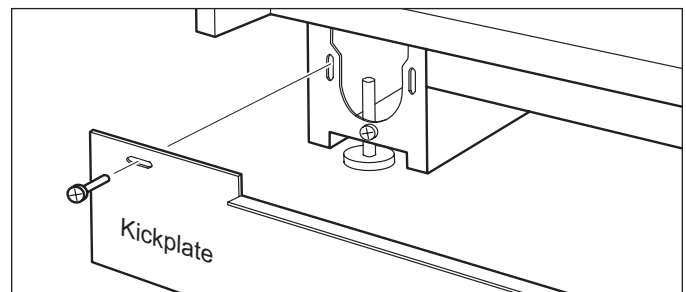

Figure 2-3. Kickplate Removal
1. To level unit, first remove kickplate (See Figure 2-3).